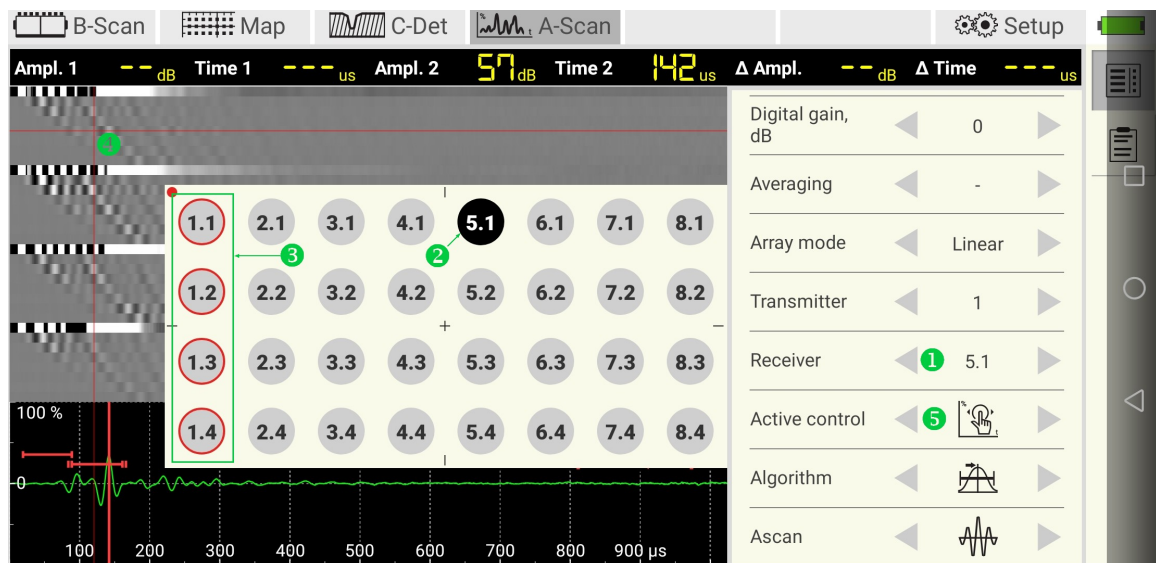

Figure 11: Receiver selection
Figure 11 illustrates the receiver selection. Use the `control` ❶ to assign the receiver. The rising dialog indicates the receiver by black color ❷ and transmitters with a red border ❸. Alternatively, the receiver can be selected with the help of the horizontal cross cursor ❹. Activate the cursor by long tap on farm view or using ❺. Select the desired a-scan (the corresponding receiver will be shown in ❶) by moving the cursor vertically.